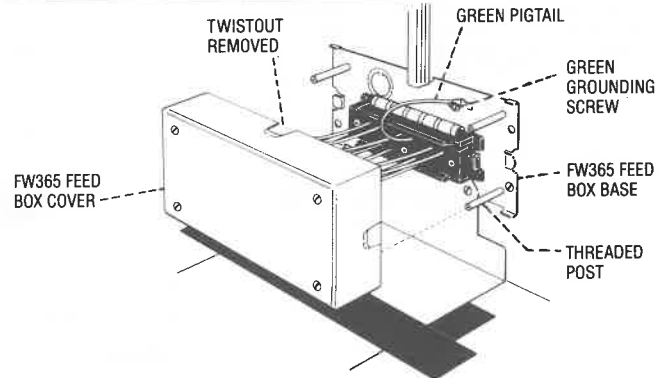

Fig. 12
C. **After system has been completely installed:** bring feed wiring into box from Wiremold 500 or 700 raceway and connect to transition connector pigtailed in accordance with approved methods. Connect one green pigtail to green grounding screw on feed box base (Fig. 12).